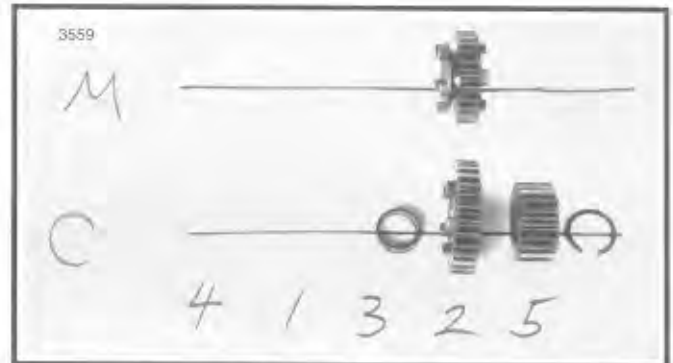

Figure 6-28.
3. See Figure 6-28. As each component is removed, place it on a clean surface in the exact order of removal.